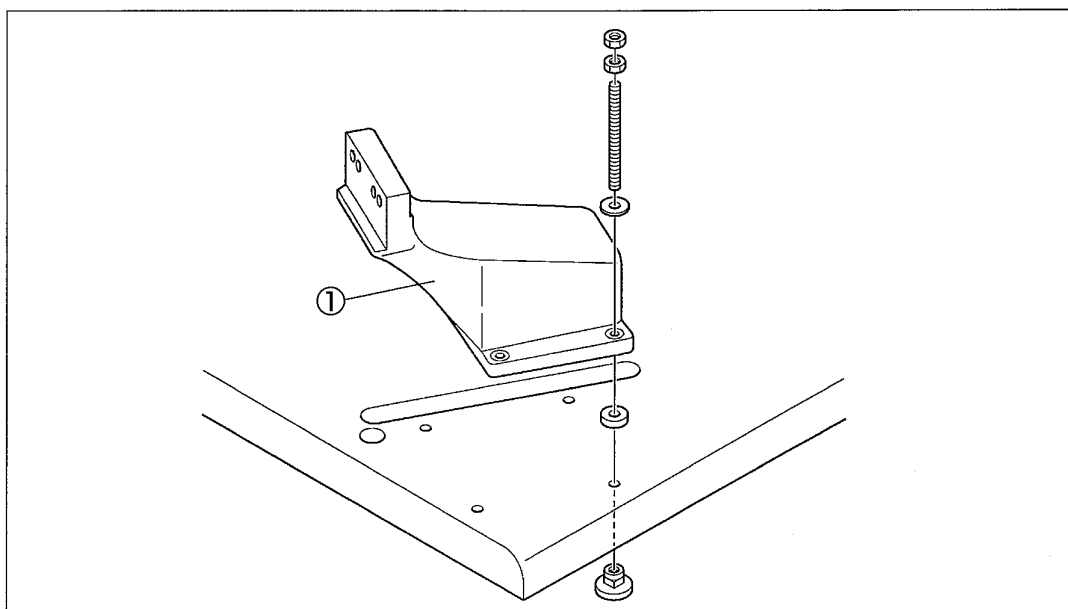

Fig. 2-6
Set the sewing machine supporting block①, referring to Fig. 2-6.